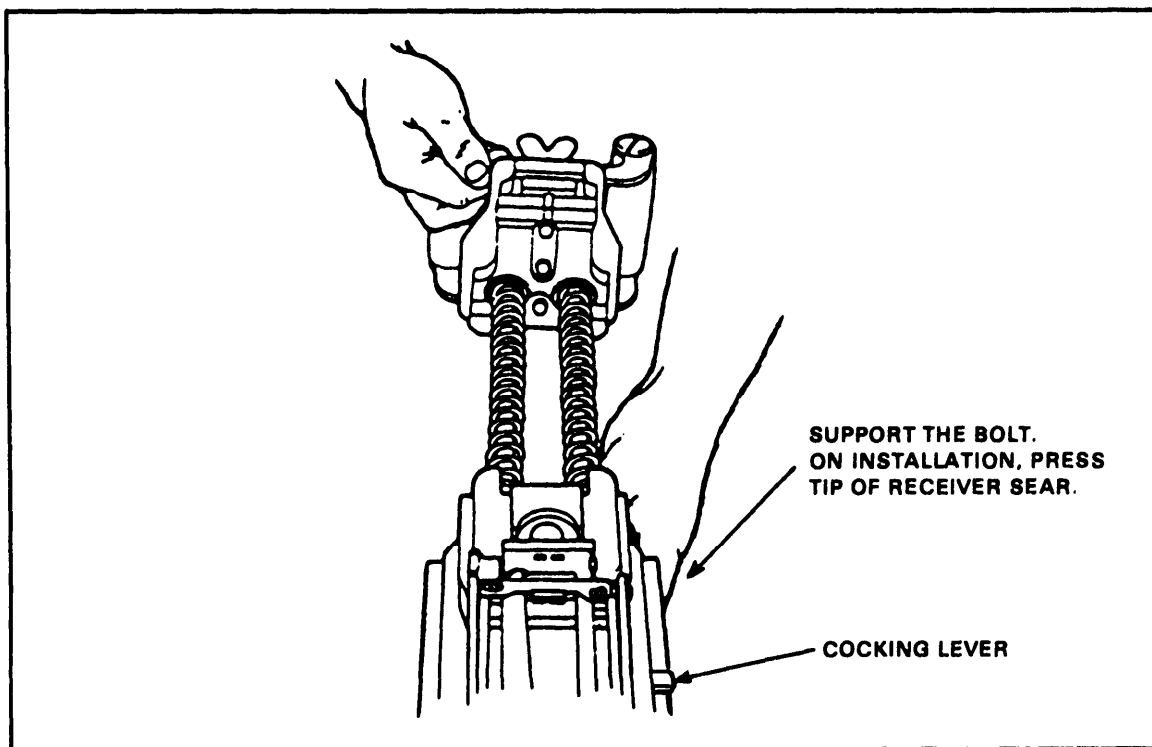

Figure 2-19. Insertion of bolt and backplate assembly.
- (1) Replace the charger assemblies.
- (2) Replace the round-positioning block.
- (3) Replace the ogive plunger.
- (4) Replace the alignment guide.
- (5) Replace the primary drive lever and vertical cam.
- (6) Attach the sear assembly: depress the sear spring and turn the assembly 90 degrees toward the barrel's center line until the assembly locks into position.
- (7) Insert the bolt and backplate assembly.
- (a) Ensure that the cocking lever is forward and insert the bolt and backplate assembly into the receiver (Figure 2-19) .